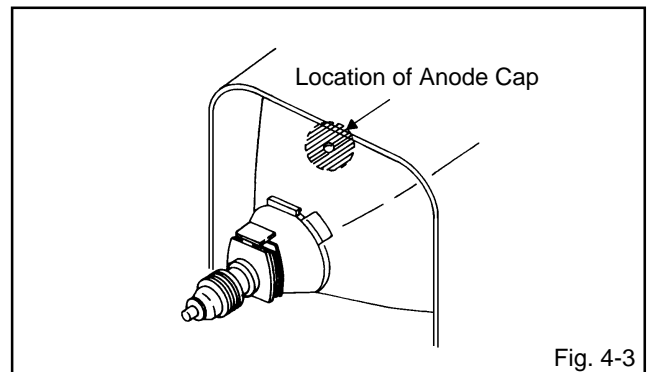

Fig. 4-3
1. Clean the spot where the cap was located with a small amount of alcohol. **(Refer to Fig. 4-3.)**